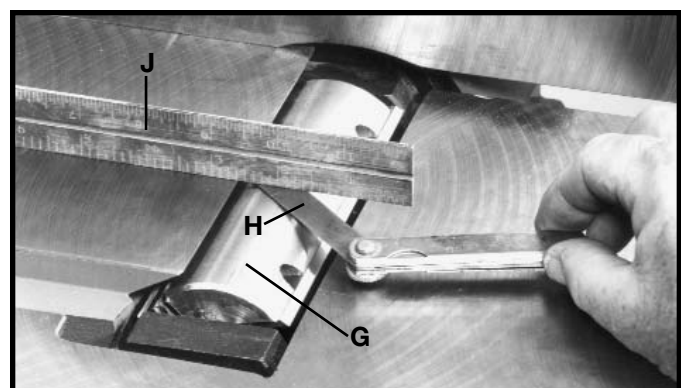

Fig. 57
9. Carefully rotate the cutterhead (G) Fig. 57, until the round portion of the cutterhead is on top as shown.
10. Place a .060" feeler gage (H) Fig. 57, on the cutterhead and using a straight edge (J) on the rear table adjust the height of the rear table until it is .060" above the cuttinghead diameter, as shown.